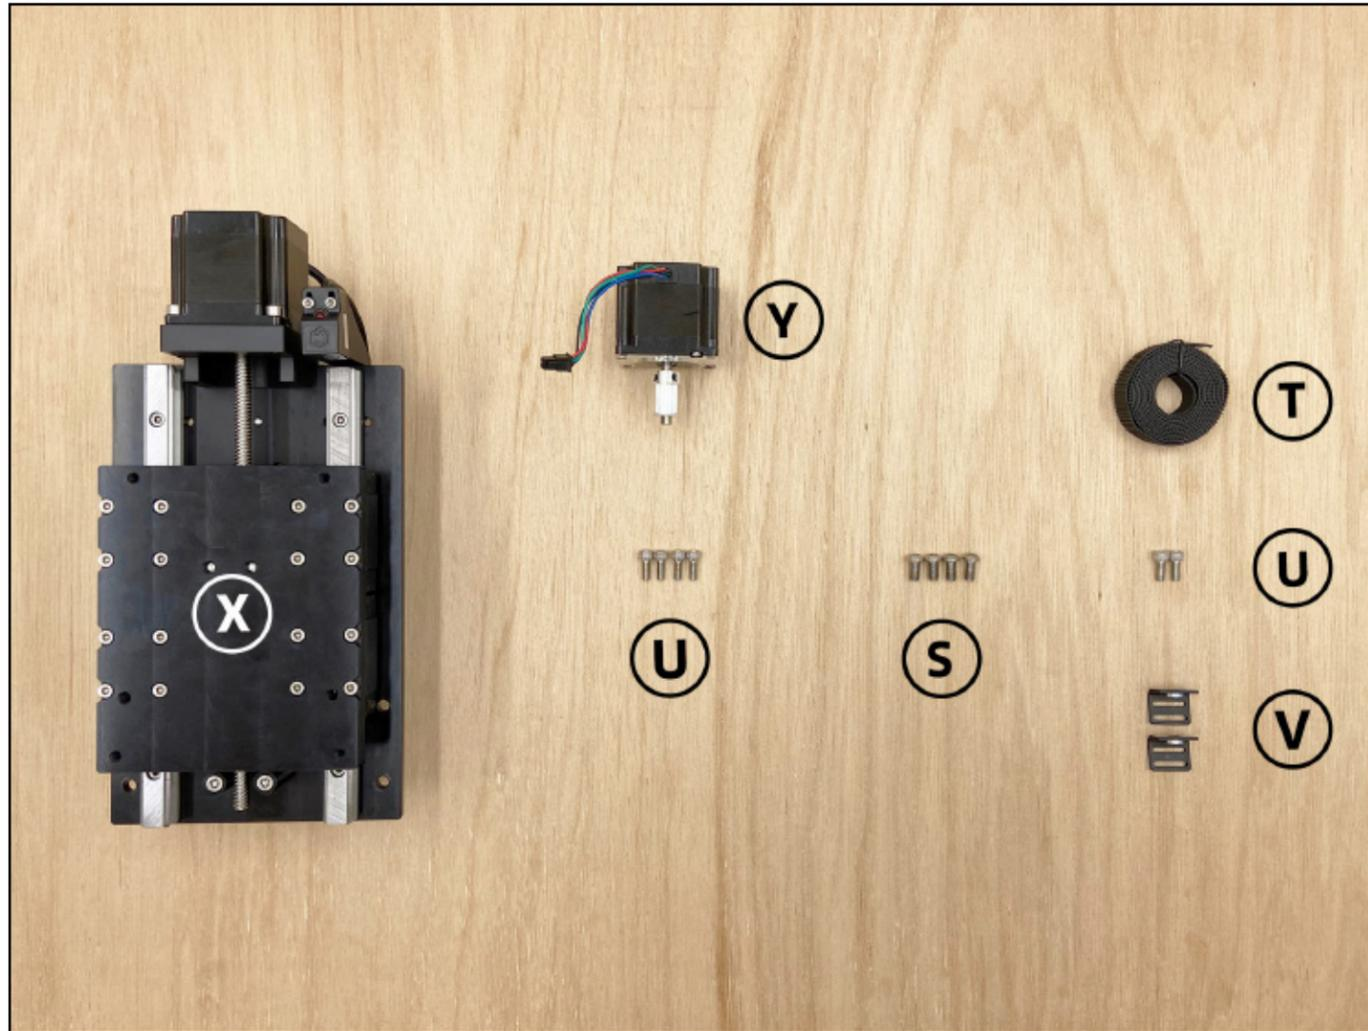

Figure 5-1
Step 5 – X/Z Assembly box contents; see *Fig. 5-1*.